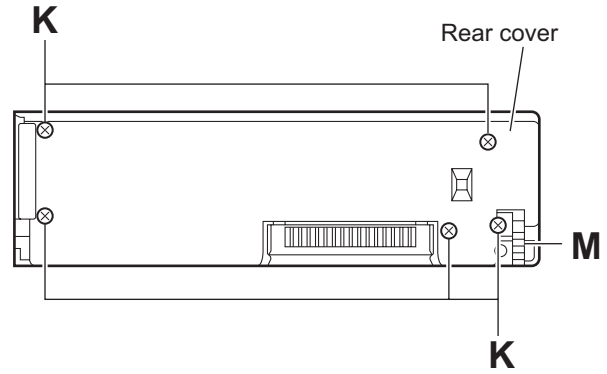

Fig.9
### 3.1.8 Removing the switch board (See Figs.9 to 11)
- Remove the five screws **K** on the back side of the front panel assembly. (See Fig.9.)
- Remove the screw **M** on the right side of the front panel assembly. (See Fig.9.)